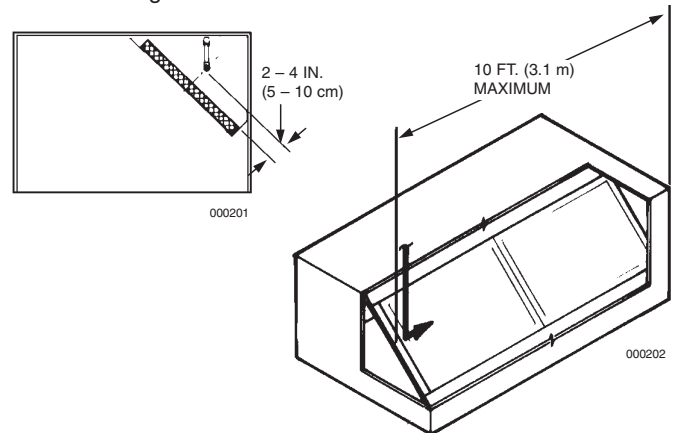

FIGURE 9
- ▶ One 1N nozzle will protect 10 linear feet (3.1 m) of single filter bank plenum. The nozzle(s) must be mounted in the plenum, 2 to 4 in. (5 to 10 cm) from the face of the filter, centered between the filter height dimension, and aimed down the length. The nozzle must be positioned 0-6 in. (0-15 cm) from the end of the hood to the tip of the nozzle. See Figure 9.